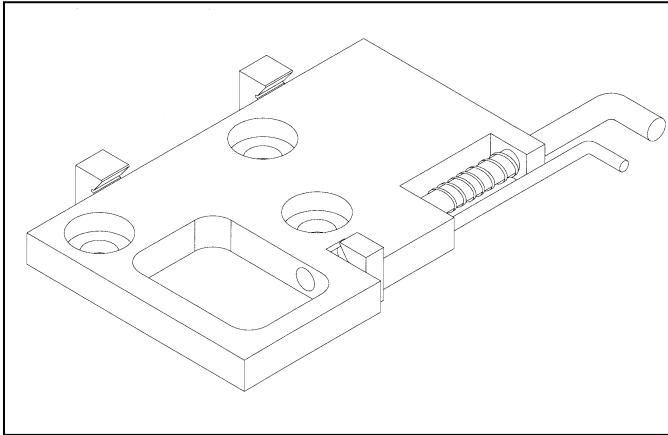

Figure 2.2.1.3 Press Base Plate Locking Latch - Molex TM7 Press
- 2.2.1.3 Some presses have locking latches on the base plate which have to be flipped up for securing the applicator, others have knurled finger screws or some have "T" type latches. Most are located on the right side of the base plate for tight positioning of the applicator. These must be in place and secured before operating press. (Refer to Fig. 2.2.1.3 Press Base Plate Locking Latch)